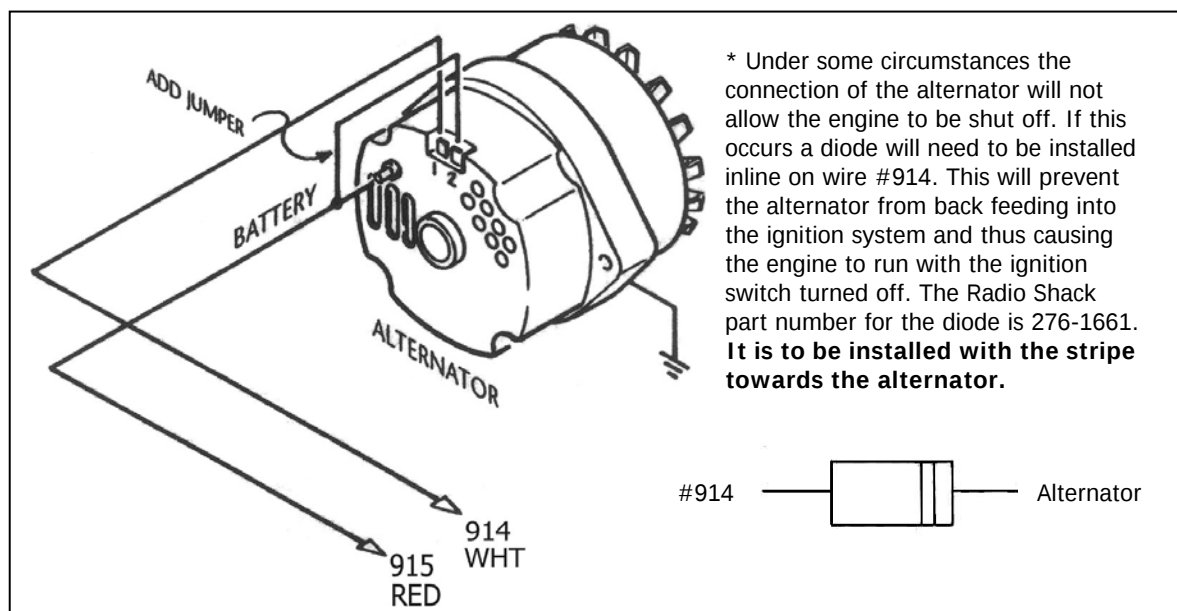

Figure 7-2A Late GM Alternator - Internal Regulator
** If you do not have a One Wire alternator refer to Figure 7-2A.